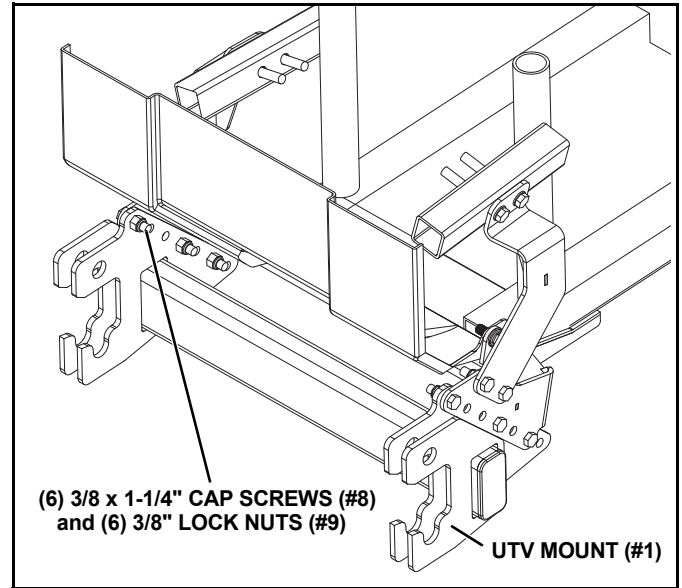

Figure 5
- Secure UTV Mount (#1) with (6) 3/8" x 1-1/4" Cap Screws (#8) and (6) 3/8" Lock Nuts (#9). (See Figure 5.) Tighten all hardware.